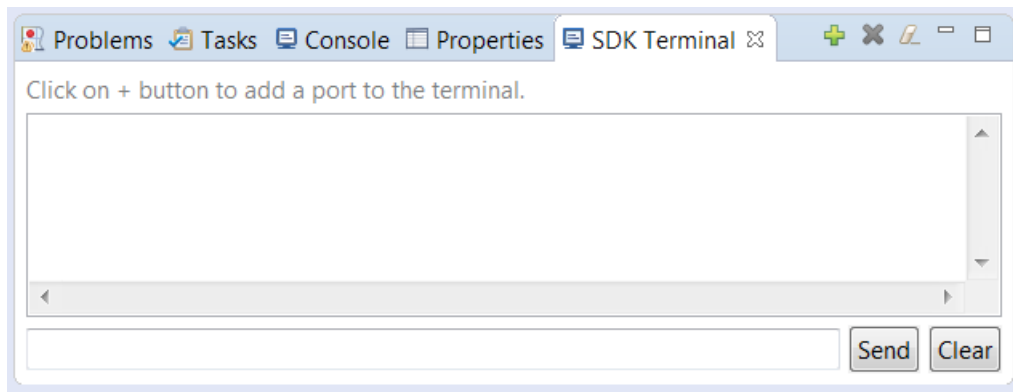

Figure 10-22: The Connect Icon
- a. Click the **Connect** icon (Figure 10-22).